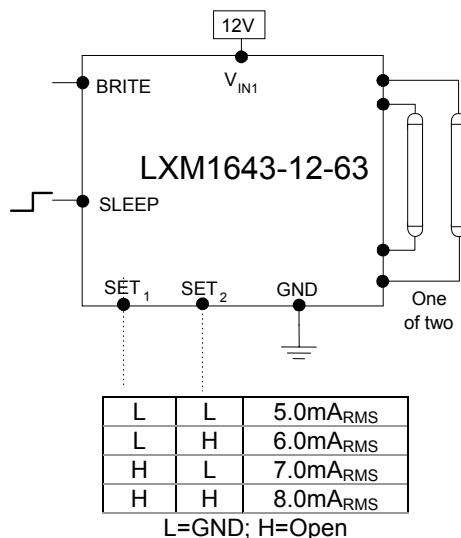

Figure 2 – Max Output Current
- Use the SET₁ and SET₂ (see Figure 2) inputs to select the desired maximum output current. Using these two pins in combination allows the inverter to match a wide variety of panels from different manufacturers. Generally, the best lamp lifetime correlates with driving the CCFL at the manufactures nominal current setting. However the SET₁ and SET₂ inputs allow the user the flexibility to adjust the current to the maximum allowable output current to increase panel brightness at the expense of some reduced lamp life.